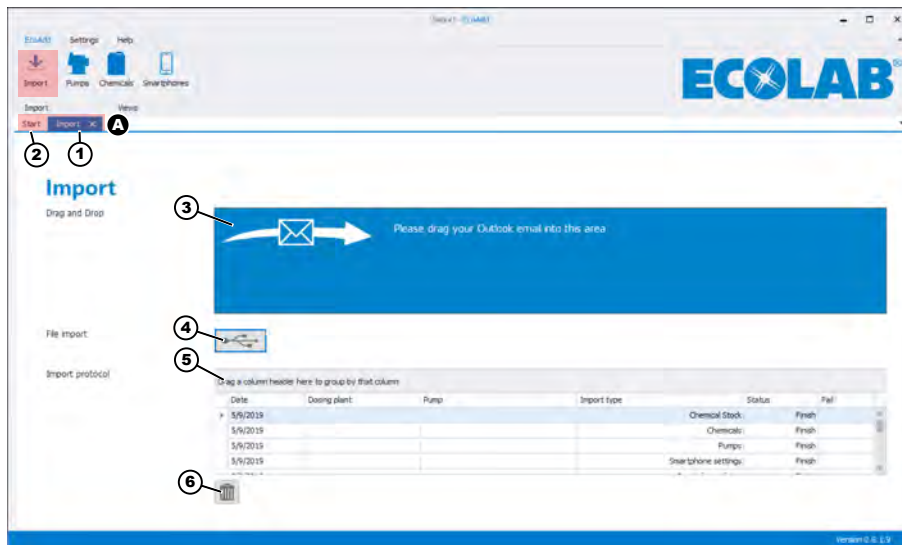

Fig. 13: Import functions
The switching function (Fig. 13, item A) provides 'tabs' that enable you to change between individual views and close them individually. The 'Import tab' Fig. 13, item 1 is displayed when you start the [*Import*] function. Select the 'Start tab' to switch to the [*Start*] screen, which provides an overview of the pumps that have been imported.
As described under ☞ *Chapter 5.1.1 'Email data import function 'EcoAdd PC' program' on page 20*, you can use the area for importing emails (Fig. 13, item 3) to import data that was sent using an email client.
If you want to import data using a USB stick rather than by email (Fig. 13, item 4), follow the description in ☞ *Chapter 5.1.2 'USB import function 'EcoAdd PC' program' on page 21*.
The [*Import log*] (Fig. 13, item 5) provides an overview of all imported data.
You can use the  icon (Fig. 13, item 6) to delete individual items of data in the [*Import log*] (Fig. 13, item 5).